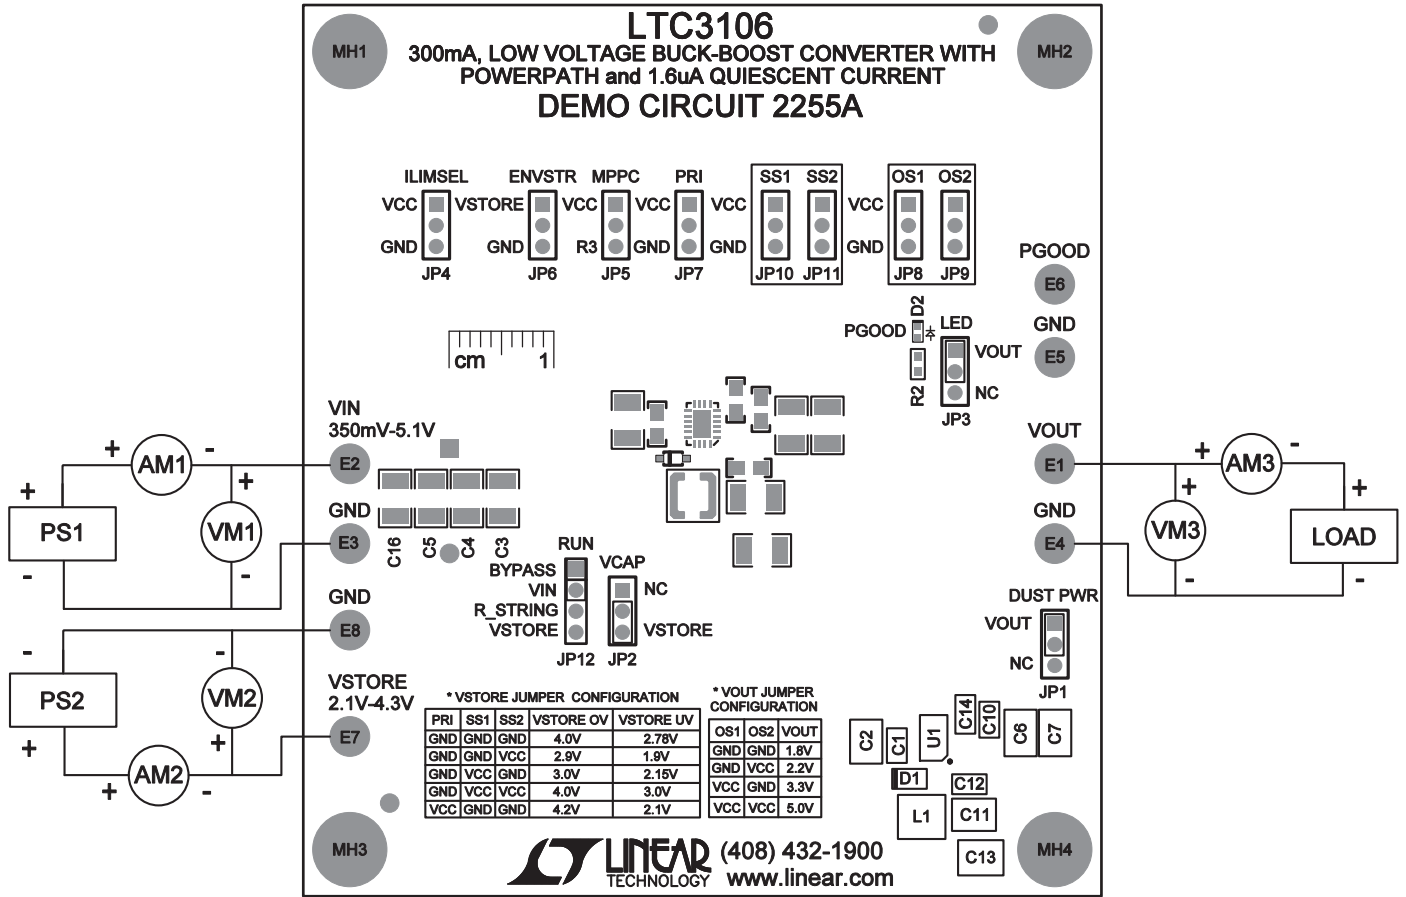

Figure 5. Proper Measurement and Equipment Setup
Using short twisted pair leads for any power connections and with all loads and power supplies off, refer to Figure 5 for the proper measurement and equipment setup. The power supplies (PS1 and PS2) should not be connected to the circuit until told to do so in the procedure below.
2. With power OFF connect the power supplies (PS1, PS2) as shown in Figure 5. If accurate current measurements are desired (for efficiency calculation for example) then connect ammeters in series with the supplies as shown. The ammeters are not required however.
3. Connect a 3.3mA load (1kΩ) to VOUT as shown in Figure 5. Connect an ammeter in series if accurate current monitoring is desired.